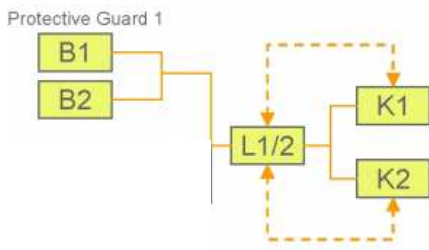

Figure 2
- The functional channel can be represented by a single protective guard actuating two limit switches (i.e. S1 and S2) that would correspond to the input (see figure 2).